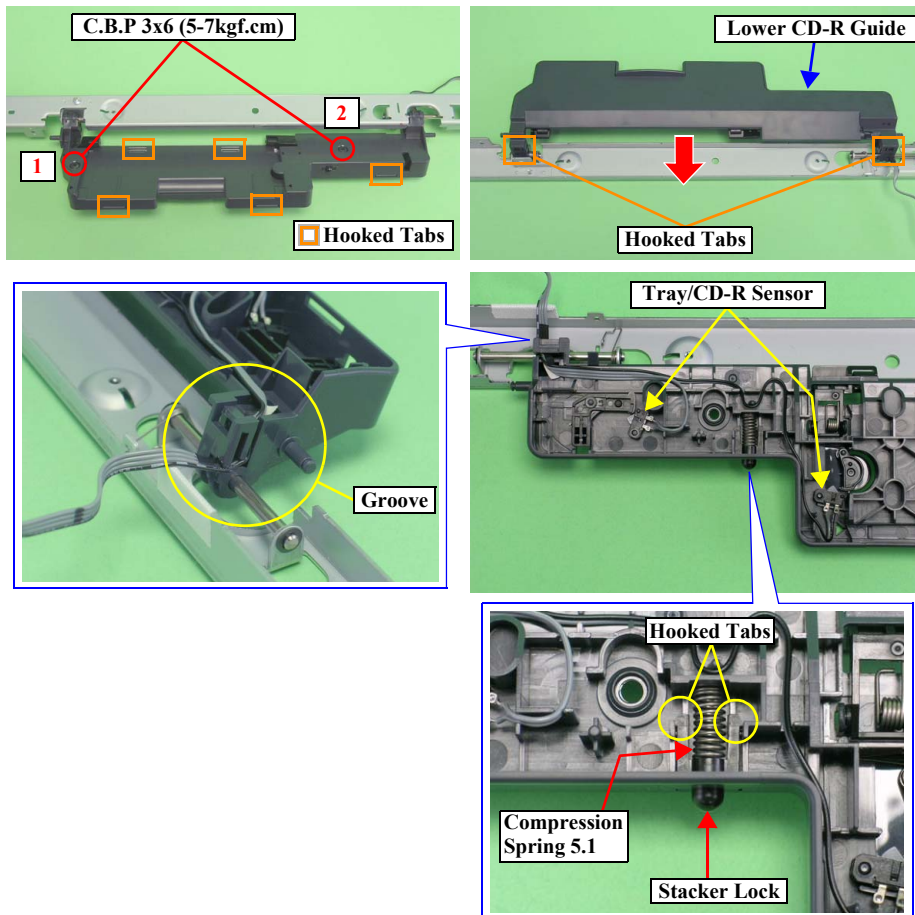

Figure 2-80. Removing the CD-R Guide Assy. (2)
- Route the connector cable of the Tray/CD-R Sensor as shown in Figure 2-80.
- Tighten the screws in the order shown in Figure 2-80.
- Make sure that the two tabs of the Stacker Lock are properly secured with a tension of the Compression Spring 5.1. See Figure 2-80.